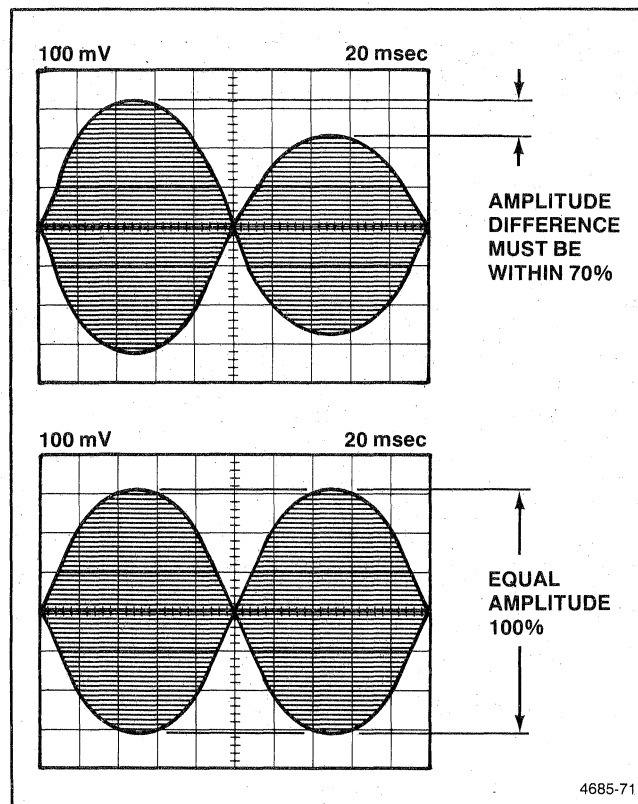

Figure 13-2. Alignment Waveforms.
5. Alternately select heads 0 and 1 and verify the scope display with Figure 13-2. If the amplitude of the lobes on the scope display is not within 70% as shown, continue this procedure; if the amplitude is within 70% on both heads, proceed to the Read/Write Heads Azimuth Check in this section.